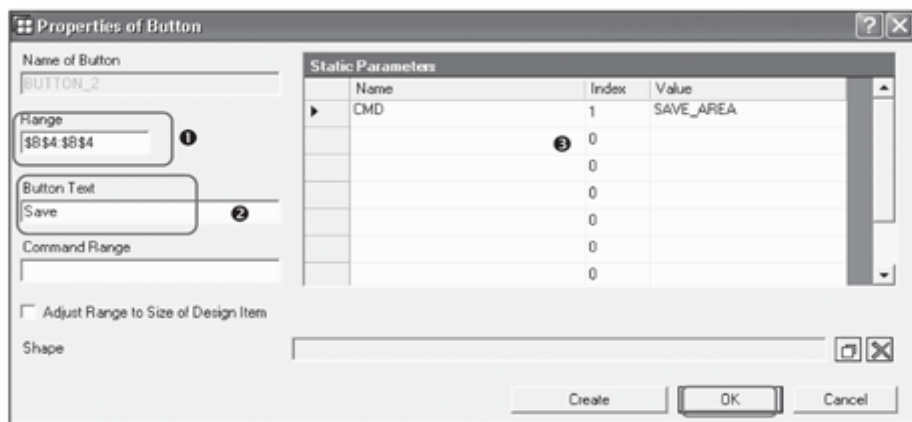

Figure 12.82 Properties for the Save Button
8. You can further maintain the properties for this Save function assignment, as shown in Figure 12.82. You can define the cell range in the workbook to which the planning function will be applied (❶). The display text for the button can be maintained in the Button Text field (❷). The static parameters for the function are visible on the right side (❸). for the Save command, no additional parameters need to be defined. Maintain the properties for the button, and click OK to complete the command assignment.